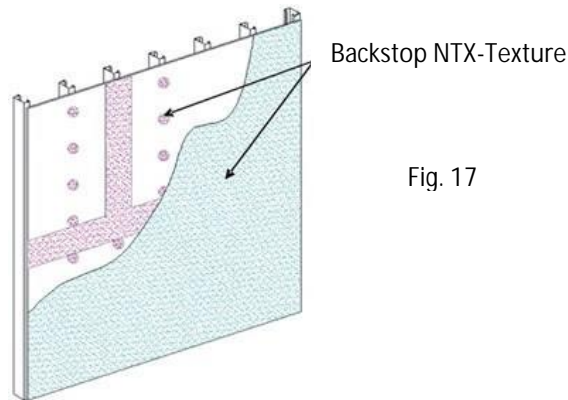

Fig. 17
- 3) Use a coarse, open-cell foam roller cover with a 3/8 in (9.5 mm) foam nap (FoamPRO #58 roller). Apply a uniform, continuous film of Backstop NTX - Texture over the entire surface of the sheathing, concrete or masonry, including the previously treated areas – Figure 17.